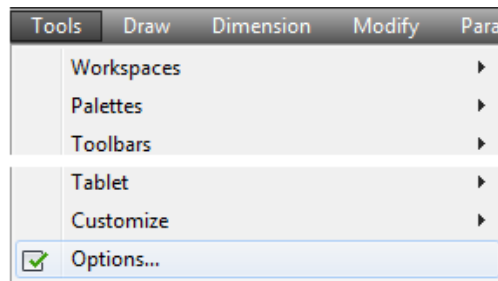

Figure Step 20
Step 20 Click the item Tools located in the top line of the in the Pull-down menu. In the Pull-down menu, click Options. (Figure Step 20)